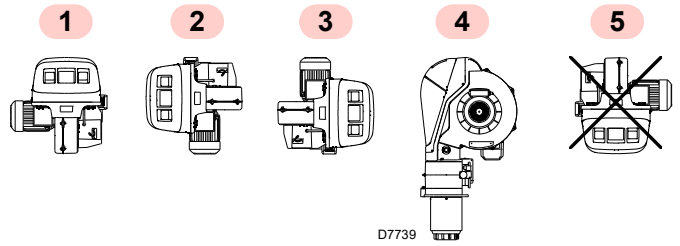

Fig. 13
- The burner is designed to operate only in positions **1**, **2**, **3** and **4** (Fig. 13).